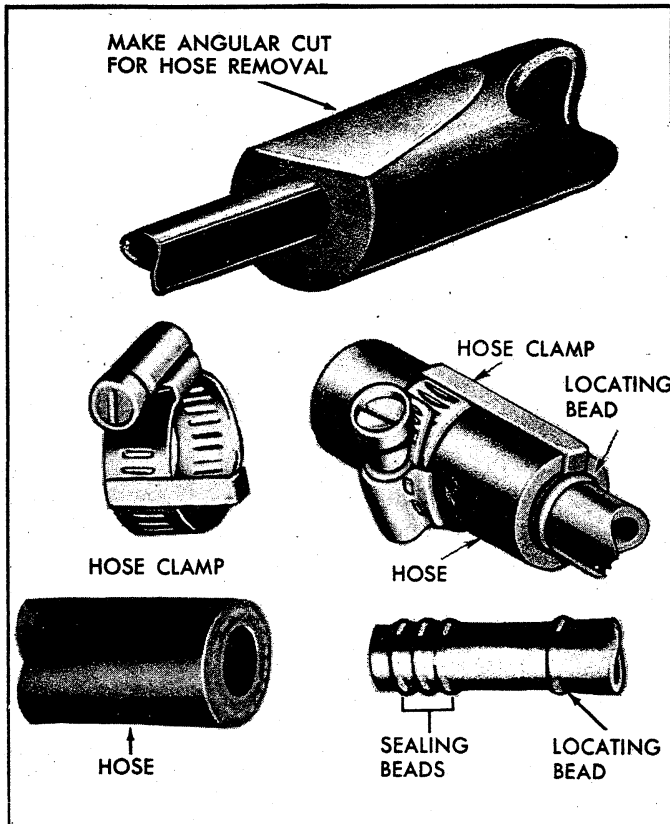

Fig. 58—Hose Clamp Connections
Hose Clamps (Fig. 58)
1. Carefully, with a sharp knife, make an angle cut in the hose as shown in Figure 58. This should loosen the hose so that it may be worked off the fitting.